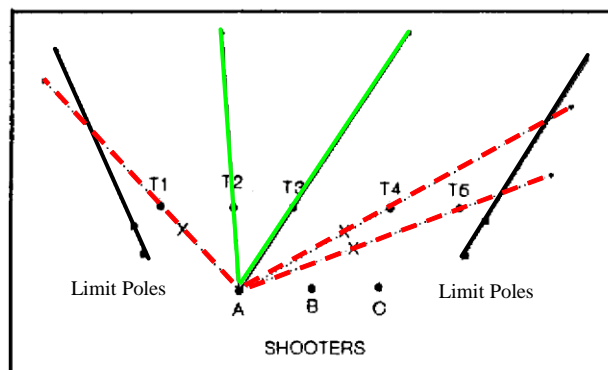

Figure 1. Shooter A may engage targets 2 and 3, but not 1, 4, or 5.
8.13.1.2 Limit of fire markers (limit poles) must be placed to denote right and left limits of fire. The maximum horizontal angle of bullet travel is determined by observing the pole alignment from the firing point. The horizontal angle from range centerline must not exceed the angle created by the poles (see Figures 1, 2, and 3). Red limit poles will be used to control all rifle caliber fire. Green limit poles will be used to control pistol caliber and shotgun fire.